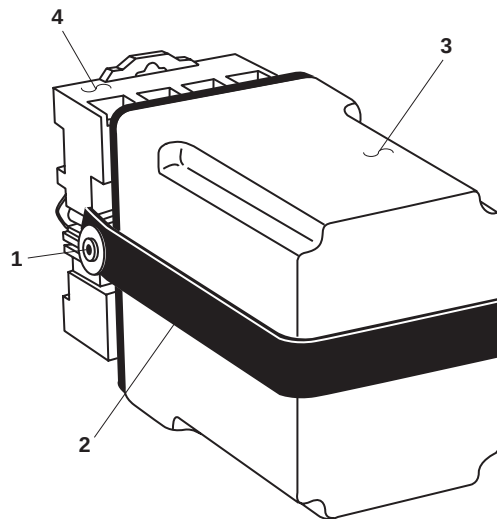

Figure 4. Relay Assembly
2. Remove the screws (figure 4, item 1) that secure the hold down spring (figure 4, item 2).
3. Remove the hold down spring (figure 4, item 2).
4. Remove the relay (figure 4, item 3) by gently pulling it free from the socket (figure 4, item 4).
1. Install the relay (figure 4, item 3) by lining up the pins and gently pushing it into the relay socket (figure 4, item 4) until it snaps into place.
2. Install the hold down spring (figure 4, item 2) over the relay (figure 4, item 3), securing it with the screws (figure 4, item 1).